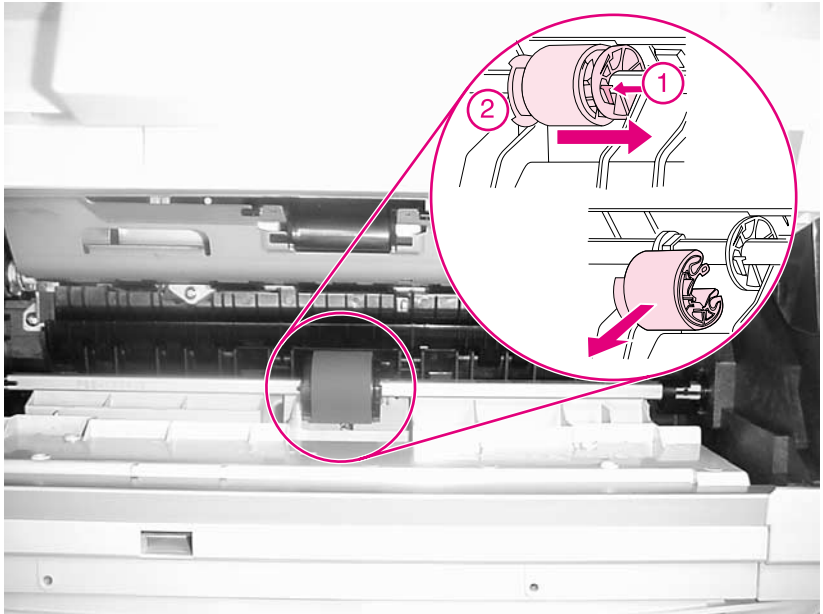

Figure 6 Removing the Tray 1 pickup roller
- 2 Lift the locking tab (Figure 6, item 1) on the right side roller cam, and slide the cam to the right.
- a. Orient the roller so that the thumb grip (Figure 6, item 2) is on the left.